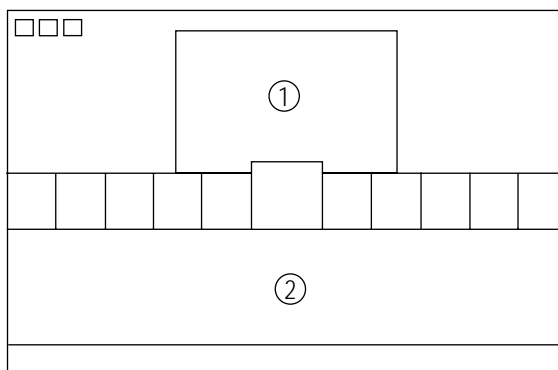

Fig. 4-4
1. Set SBT to 2.5 ± 0.5 fL in the Factory Service Mode with using CA100. See Fig. 4-4 ②.
1. 50 21"flat in the Factory Service Mode with using CA100. See Fig. 4-4 ①.